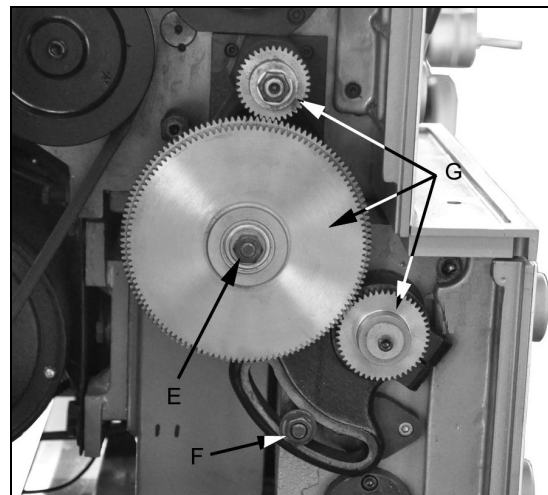

Figure 10-2
3. Loosen hex nuts (E/F, Figure 10-2). Move quadrant out of the way.
4. Change gears (G, Figure 10-2) to match feed and thread chart.